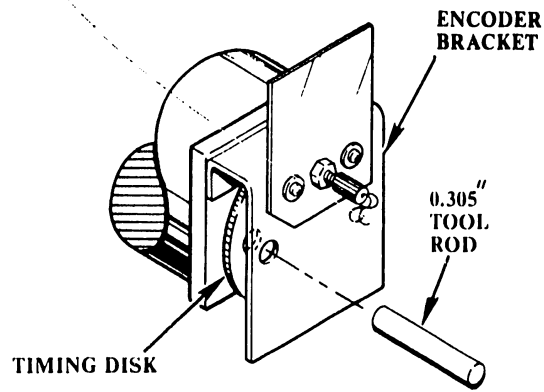
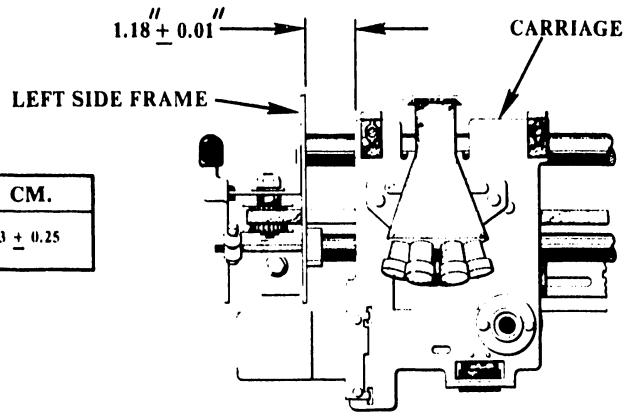
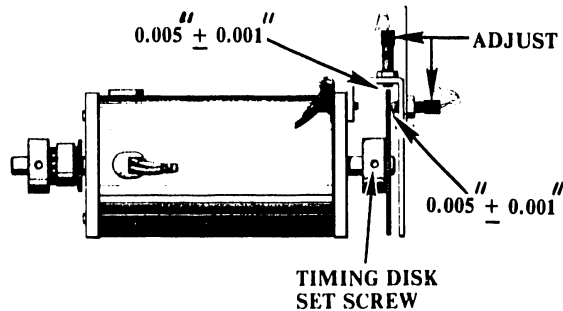

FIGURE 6-26 TIMING DISK ALIGNMENT HOLE
FIGURE 6-27 DISTANCE BETWEEN CARRIAGE AND LEFT SIDE FRAME
FIGURE 6-28 TIMING DISK AND SENSORS
- 1) Place the 0.305" tool rod through the encoder-bracket hole (see Figure 6-26) and into the timing-disk hole. Check for a distance of  $1.18" \pm 0.01"$  ( $3 \text{ cm} \pm 0.025 \text{ cm}$ ) between the carriage assembly and the left side frame (see Figure 6-27).
- 2) The distance between the edge/face of the timing disk and the pick ups should be consistent along the circumference of the disk with a gap of  $0.005" \pm 0.001"$  ( $0.0127 \text{ cm} \pm 0.025 \text{ cm}$ ). (See Figure 6-28.)
- 1) Loosen the timing disk set screw (See Figure 6-28), and slide the 0.305" tool rod through the encoder-bracket hole and into the timing-disk hole. (See Figure 6-26.)
- 2) Move the carriage  $1.18" \pm 0.01"$  ( $3 \text{ cm} \pm 0.025 \text{ cm}$ ) from the left side frame and tighten the timing-disk set screw (refer to Figures 6-27 and 6-28).
- 3) Loosen the index hole magnetic reluctance pickup locking nut. (See Figure 6-28.)
- 4) Back out the pickup and place a 0.005" (0.0127 cm) gauge between the pickup and the timing disk. Turn the pickup in until it just contacts the gauge and retighten the locking nut. (Refer to Figure 6-28.)